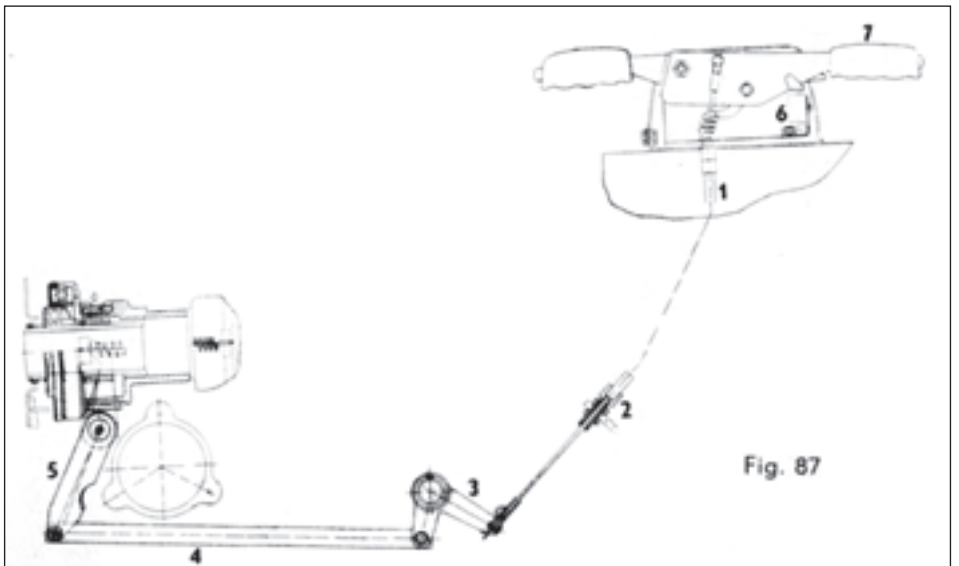

Fig. 87
1. **Mechanical control** (Fig. 87) consists of a hand lever (Fig. 87/7), Bowden cable (Fig. 87/1), adjusting screw (Fig. 87/2), double-arm lever (Fig. 87/3), draw rod (Fig. 87/4) and a shaft with lever (Fig. 87/5). The correct function of the clutch disengagement will be indicated by means of a switch (Fig. 87/6) and a pilot lamp (Fig. 91/1) which is situated on a panel.